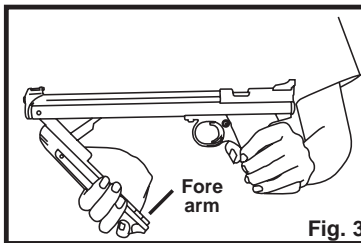

Fig. 3
- With your hands in the same position as Fig. 3, open the forearm all the way until it stops (Fig. 3). Be sure to hold the forearm firmly as you open it. It could spring back into the closed position, possibly causing injury. Do not twist the forearm while pumping. Use straight strokes to prevent breakage.